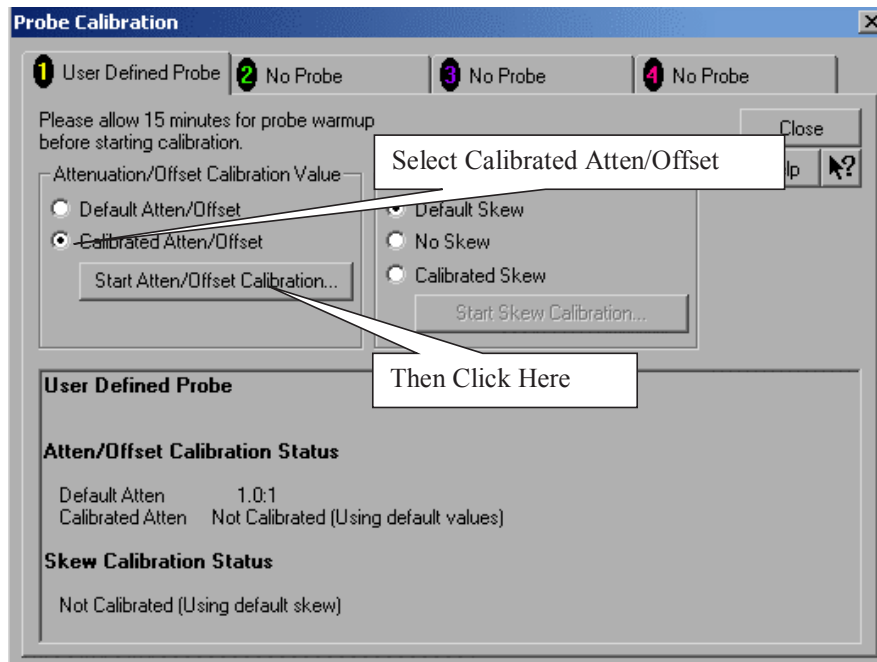

Figure 114 Probe Calibration Window.
- 5 Referring to Figure 114 below, perform the following steps: